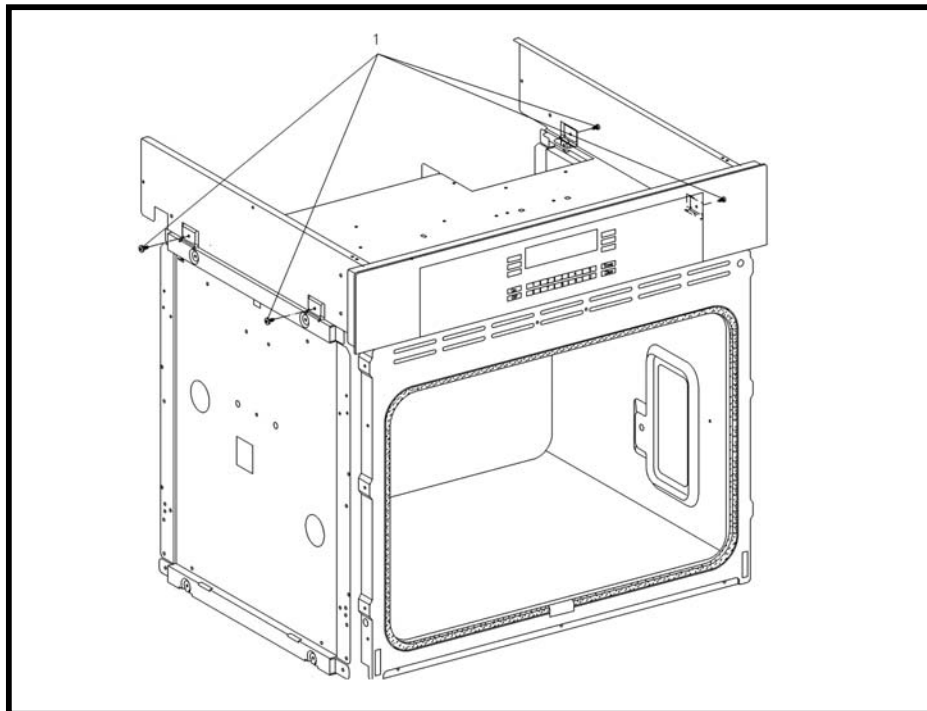

Figure 5-12: Upper (or Single Oven) Housing Retaining Screws
5. Refer to Figure 5-12. Remove the four Screws (Item 1) that secure the Upper Housing Assembly to the Cavity Assembly.